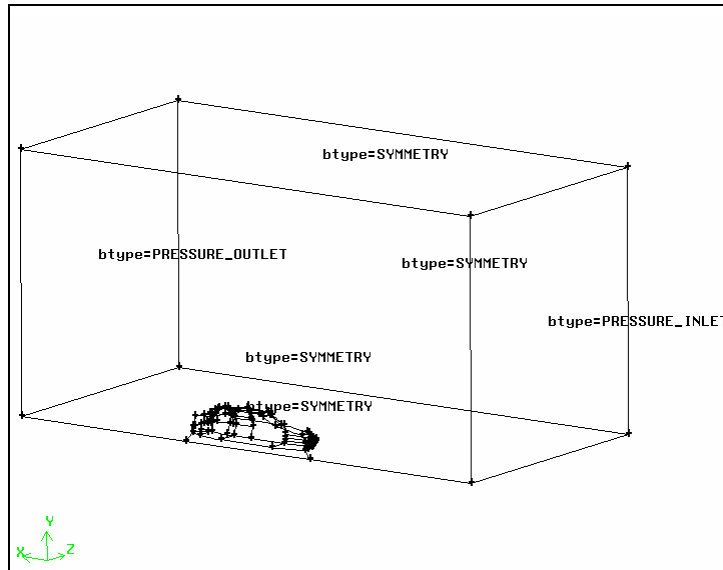

Figure 5-32: Boundary types for the sedan geometry
*The pressure inlet, pressure outlet, and symmetry boundaries for the sedan geometry are shown in Figure 5-32. (NOTE: To display the boundary types in the graphics window, select the **Show labels** options on the **Specify Boundary Types** form. To display colors associated with each boundary-type assignment, select the **Show colors** option.)*